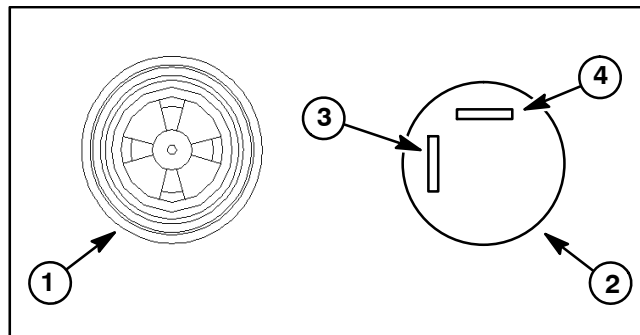

Figure 29
3. Disconnect wire harness connector from backup alarm. Correctly connect 12VDC source to the terminals (Fig. 29). Alarm should sound.